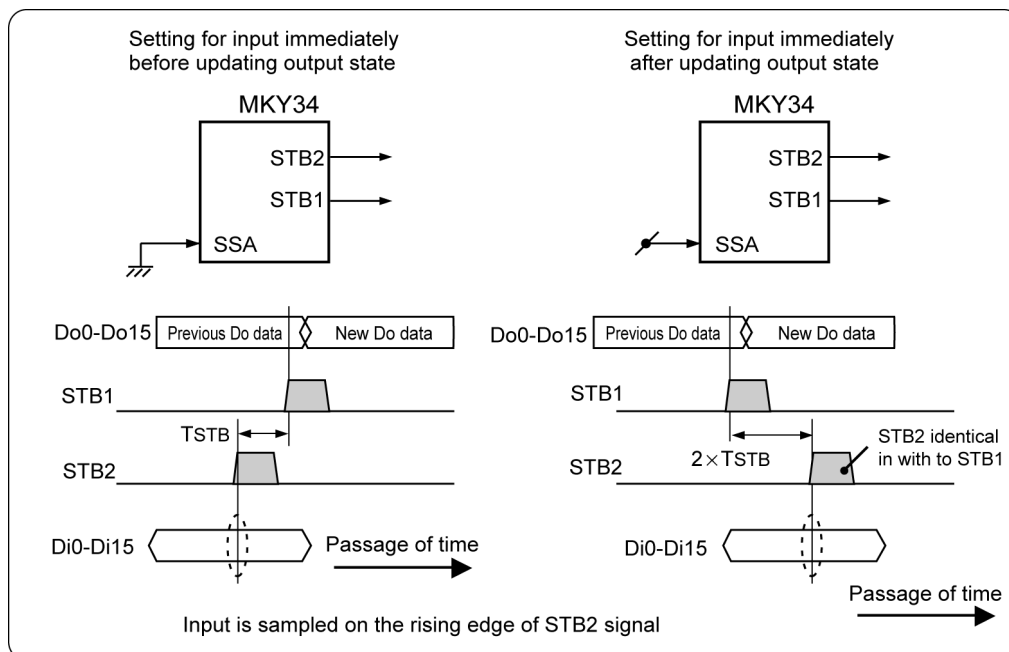

Fig. 4.3 SSA Pin Setting and Update Timing
- (1) To update state of output pin (Do) after sampling input state of input pin (Di).
- (2) To sample state of input pin (Di) after updating state of output pin (Do).
In the MKY34, the user can select the timing of strobe signals output from the STB1 pin and STB2 pin by setting the SSA (Strobe Select-A) pin (pin 46). This will enable to meet the two requests. The MKY34 performs the operation in (1) above when the SSA pin is set Low, and the operation in (2) above when the SSA pin is set High (Fig. 4.3).